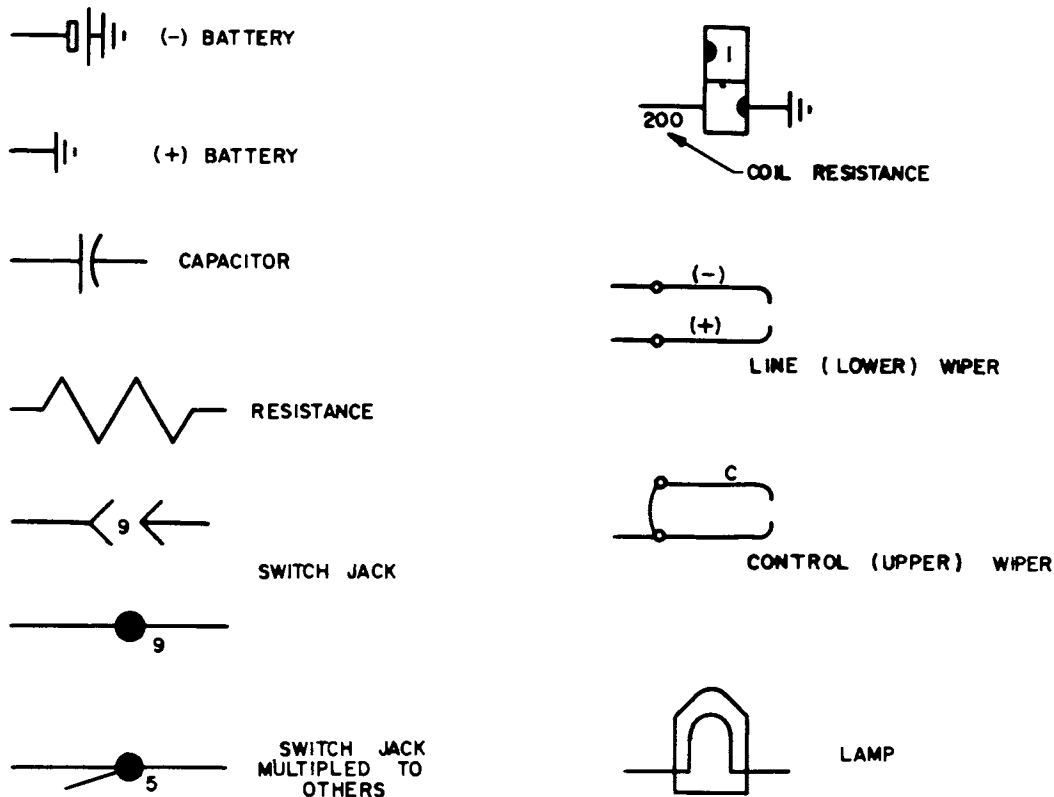

Figure 7. Standard circuit symbols.
a. See figure 7 for standard circuit symbols.